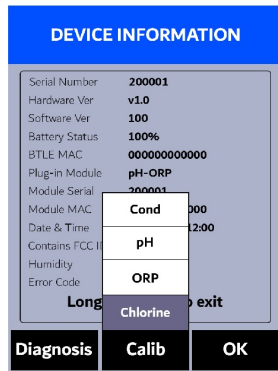

Figure 30.
3. Rinse the sample cell three times with deionized (DI) water. Fill the sample cell with DI water.
5. Press **Cond** (**<**) as needed to highlight **Chlorine** in the selection menu (Figure 30).
3. Press **Calib** (**>**) as needed to highlight **Chlorine** calibration in the selection menu (Figure 30).